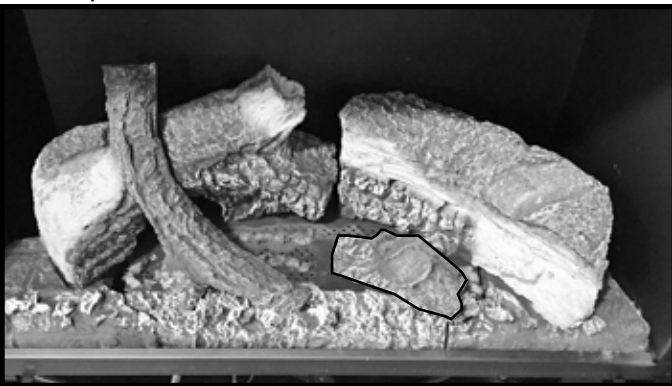

Figure 8. Install Burner Log
- Remove small burner log from packaging. This log has two holes on the bottom. These holes correspond to two log pins located on the burner top. Place log on the two log pins as shown Figure 8. When properly placed, this log will rest on both the burner and the front hearth component.